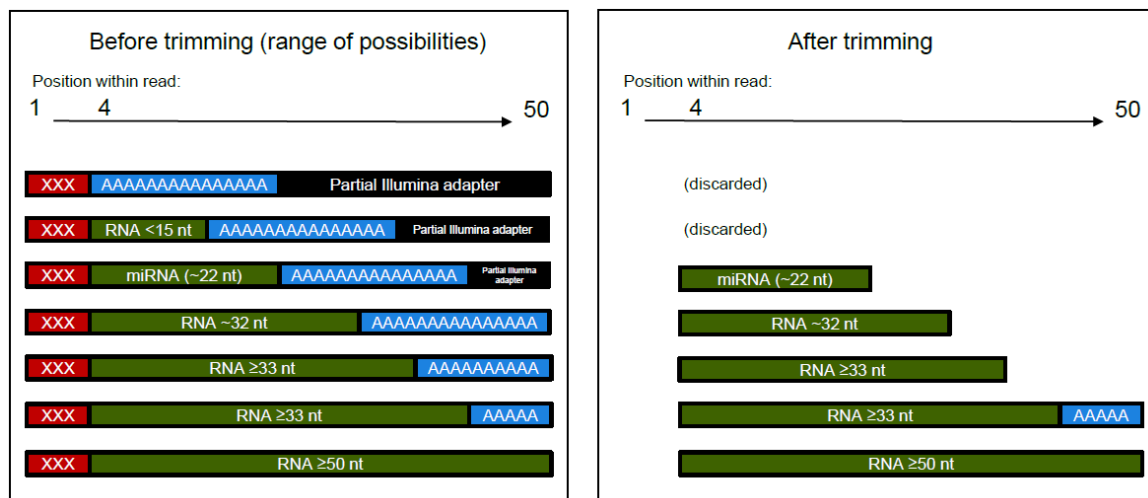

Figure 11. Example of possible reads obtained before and after trimming.
Because reverse transcription involves dT-priming on artificial poly(A) tails, a good proportion of reads will include stretches of As (particularly when 20–25 bp-sized library inserts are selected with the BluePippin system). Figure 11 is a schematic representation of what the reads may look like, before and after trimming. It is common practice to discard reads shorter than 15 nt after trimming.